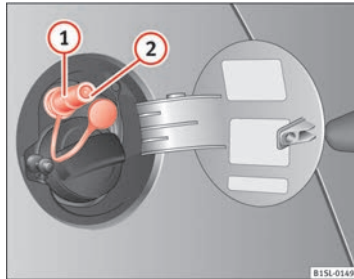

Fig. 108 Tank flap open:
- Remove the plug from the gas filler mouth ⇒ Fig. 108 ①.